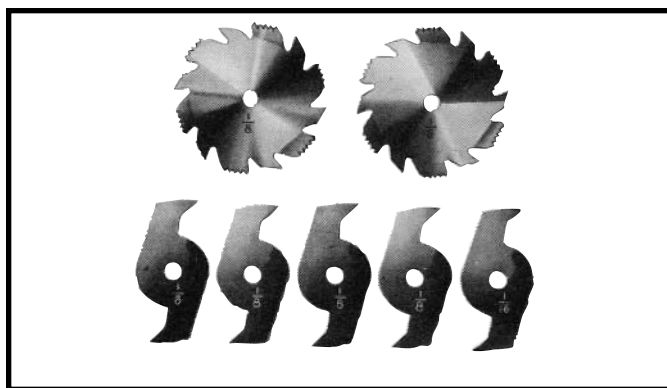
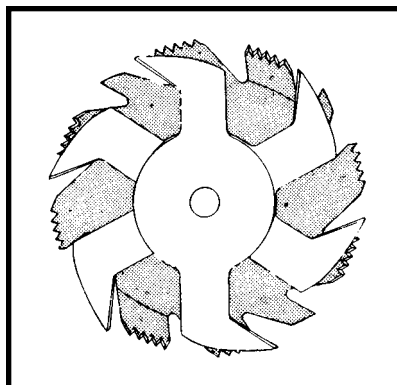
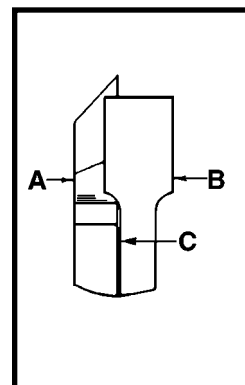

Fig. 55
Fig. 56
Fig. 57
Dadoing is cutting a rabbet or wide groove into the work. Most dado head sets are made up of two outside saws and four or five inside cutters, as shown in Fig. 55. Various combinations of saws and cutters are used to cut grooves from 1/8" to 13/16" for use in shelving, making joints, tenoning, grooving, etc. The cutters are heavily swaged and must be arranged so that this heavy portion falls in the gullets of the outside saws, as shown in Fig. 56. The saw and cutter overlap is shown in Fig. 57, (A) being the outside saw, (B) an inside cutter, and (C) a paper washer or washers which can be used as needed to control the exact width of groove. A 1/4" groove is cut by using the two outside saws. The teeth of the saws should be positioned so that the raker on one saw is beside the cutting teeth on the other saw.